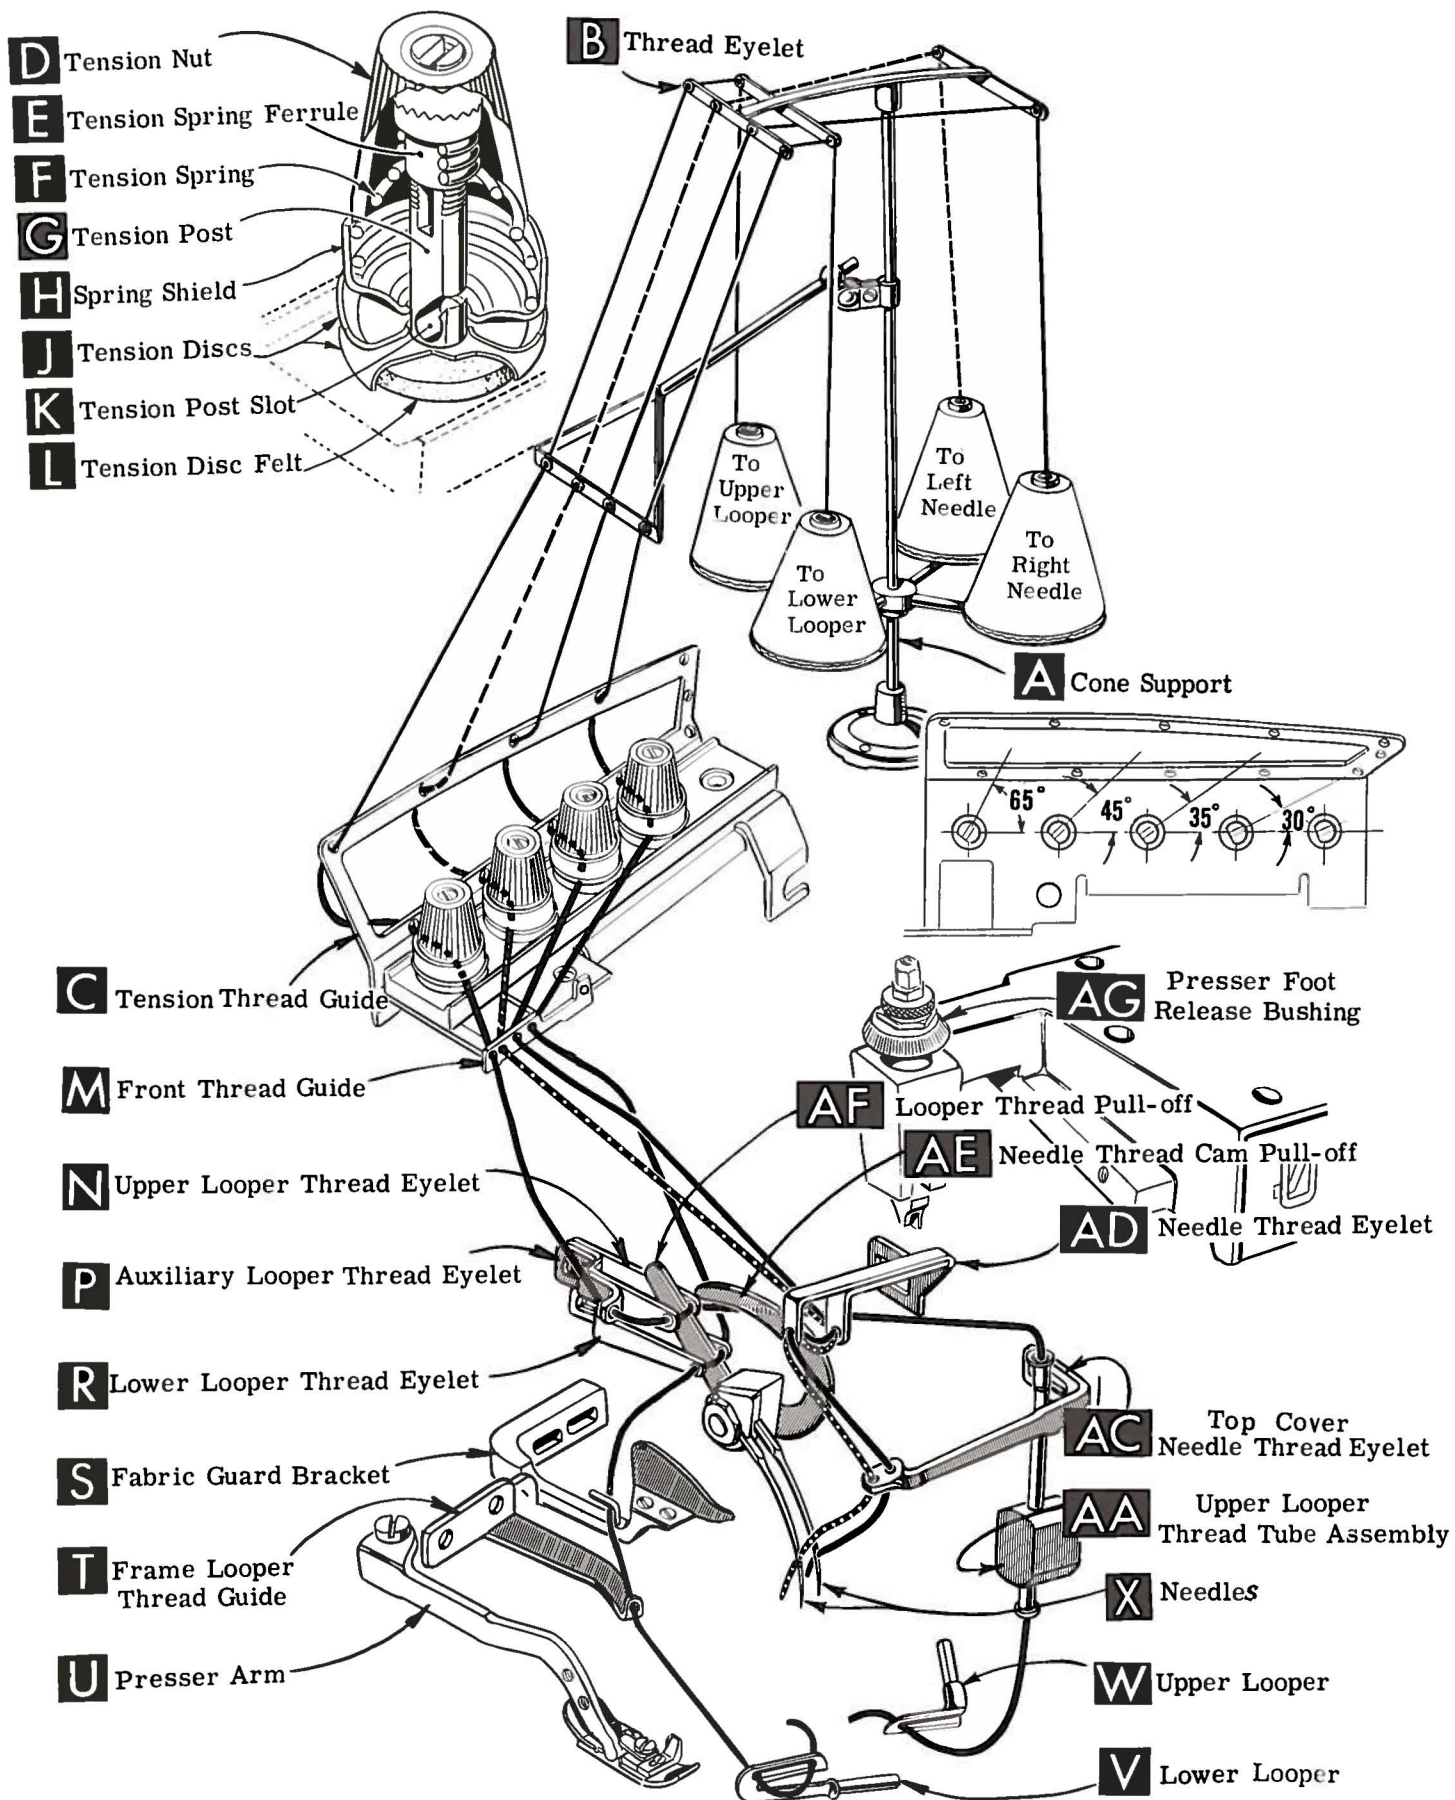

Fig. 1
Release pressure on presser foot by turning presser foot release bushing (AG, Fig. 1) and swing presser arm (U) out of position. Turn handwheel in operating direction until needles are at their lowest point of travel. Using hexagonal socket wrench No. 21388 AU, furnished with machine, loosen needle clamp nut about 1/4 turn. Again turn handwheel until needles are at high position. Withdraw needles.
After thread comes from cones on cone support (A, Fig. 1), the needle threads are threaded through the back bar of the thread eyelet (B), under the middle bar and through the center holes of the front bar. The looper threads come from the cones, through holes of the middle bar from back to front and then through the two outside holes of the front bar. Next it is threaded through the upper holes of tension thread guide (C) front to back and then through the lower holes from back to front. The threads continue between the tension discs (J), through tension post slot (K) in tension post (G) and on through front thread guide (M).
Only parts involved in threading are shown in the threading diagram (Fig. 1). Parts are placed in their relative positions for clarity.
Be sure threads, as they come from the tension thread guide (C) are between tension discs (J) and in diagonal slots (K) in tension posts (G). The tension posts should be positioned so the tension post slot will be at the approximate angle for the different threads as indicated in Fig. 1.
Double end of thread and lead it through both eyes of lower looper thread eyelet (R, Fig. 1) from right to left. NOTE: thread must pass in front of looper thread pull-off (AF). Lead thread behind fabric guard (S) and through eyelet hole of frame looper thread guide (T). Turn handwheel in operating direction until heel of lower looper (V) is all the way to the left; then thread through both eyes from left to right. Left eye of lower looper can be threaded easily if tweezers are in left hand.
The amount of tension on needle and looper threads is regulated by tension nuts (D, Fig. 1). Tension on threads should be only enough to secure proper stitch formation.
Be sure machine is threaded according to threading diagram (Fig. 1). With thread tensions light, set looper thread eyelets (N & R) about horizontal and in the middle of their front to back locations. Operate machine slowly, without presser foot in place, to make sure that chain forms and moves off the tongue freely. Swing presser foot into position, insert material, and sew slowly.
While sewing on material, check needle thread control as follows: Usually all needle thread is drawn on needle down stroke. At top of needle stroke, thread should be just tight enough to feed chain off stitch tongue. Stitch tends to pull down slightly if excessive thread is pulled on the up stroke. With needle at bottom of stroke, position needle thread eyelet (AD, Fig. 1) so that needle cam pull-off (AE) just contacts needle thread.
With material under presser foot, set lower looper thread eyelet (R, Fig. 1) back far enough so thread is a little slack when looper thread pull-off (AF) reaches its most rearward position. Looper thread pull-off (AF) is set about  $1/8$  inch distance behind needle thread cam pull-off (AE). Frame looper thread guide (T) should be set with its eyelet approximately  $1/8$  inch to the right of lower looper (V) heel eyelet at the time lower looper is at extreme left end of its travel.